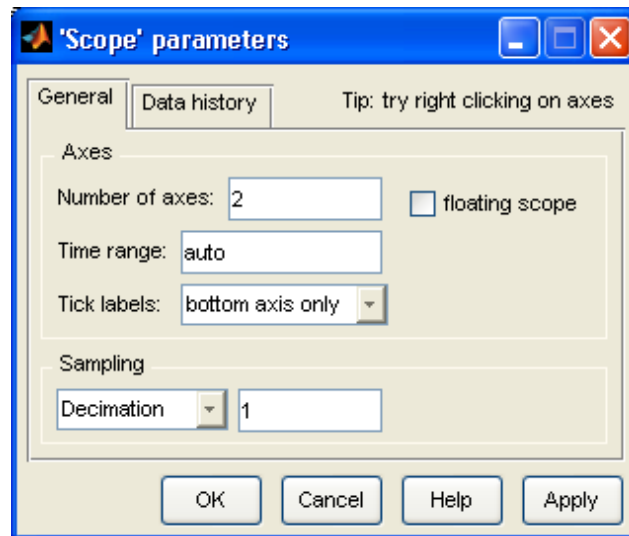

Figure 18: Scope Parameters Window
- b. Double-left click on the Scope block to display the Scope figure window. Select the Parameters icon, , which will display the Scope parameters window. Change the Number of axes field to 2, then select OK. This will put two graphs on the Scope figure window and two inputs on the Scope block in the design window. The parameters window is shown in Figure 18.